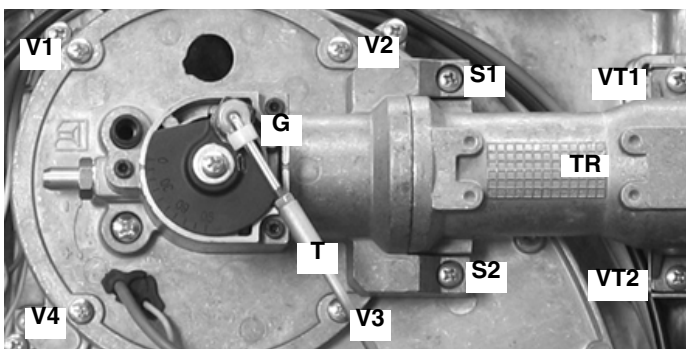

Fig. 16
- 1 Remove the plastic hook **G** to release the rod **T** (Fig. 16) .
- 2 Take the screws **V1**, **V2**, **V3**, **V4**, **VT1** and **VT2** off (Fig. 16).